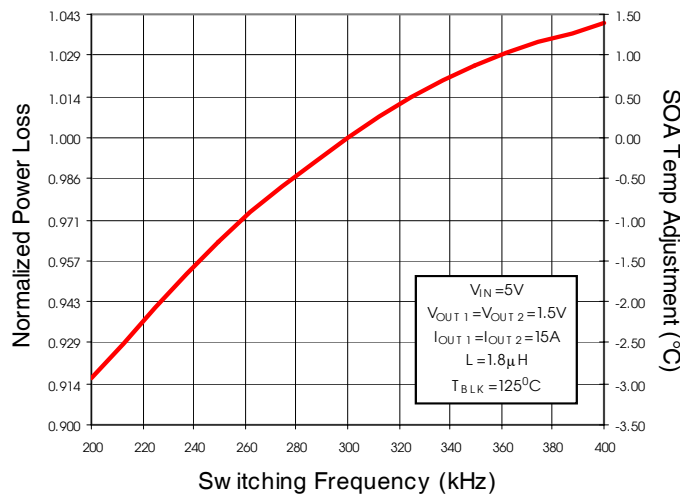

Fig. 6: Normalized Power Loss vs. Frequency
(Fig. 6) Normalized power loss for frequency \approx 0.918
- (Fig. 6) Normalized power loss for frequency ≈ 0.918
- (Fig. 6) Normalized SOA Temperature for frequency $\approx -2.9^{\circ}C$